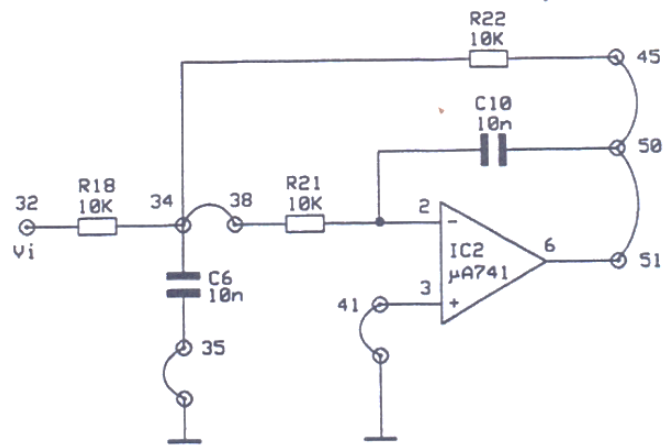

Figure 6: Circuit of OPAMP Based Low Pass Filter
The cutting frequency of the filter is determined by the value of the passive components. For the value marked in figure 6, this frequency is about 66 Hz.
- Carry out the circuit of figure 6.